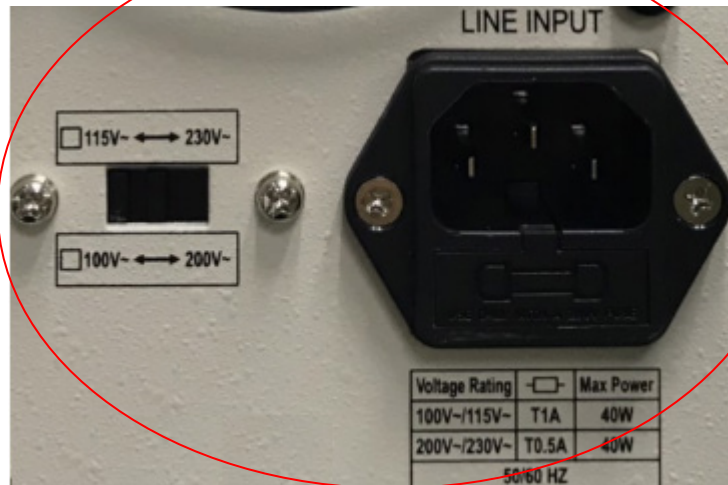

Fig 2-1 SET OF SWITCH
- 2.1.2 Refer the drawing on the rear panel in Fig 2-1, set the switches to the Proper voltage as described in the following: